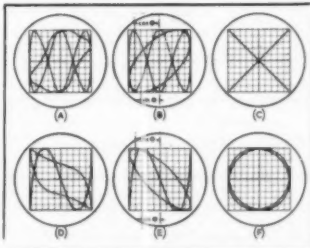

Fig. 5. Typical traces obtained using the method of Fig. 4. Significance and use of each is explained in the text.
2. Switching over SW_1 to BRI with SW_2 in position 1, the input from the oscillator is adjusted until the trace is the same width again. The bridge circuit values, and the gains of the two Y amplifiers are now adjusted to make the two patterns fall between the same two horizontal rulings, as shown at (A) in Fig. 5, the one from Y_2 taken from the null point, touching each line in three places.
3. SW_2 is moved to position 2, giving the traces shown at (B), and the dimensions of the ellipse used to determine the phase angle of the fundamental as indicated.
4. Return SW_1 to CAL position, and adjust the three potentiometers to give the pattern shown at (C), the essential features of which are: (a) the Y deflection amplitudes are both the same as in patterns (A) and (B); (b) the phase relation between X and Y deflection voltages is zero, because both traces are straight lines. The cross pattern is due to phase reversal of one half of the double beam; use of an electronic switch will produce
Fig. 6. This phase shift network enables the alternative traces of Fig. 5 to be displayed, giving the actual hysteresis loop, and a check on phase angle result. Exact 90-deg. phase shift requires adjustment for each frequency of measurement, using the method explained in the text.